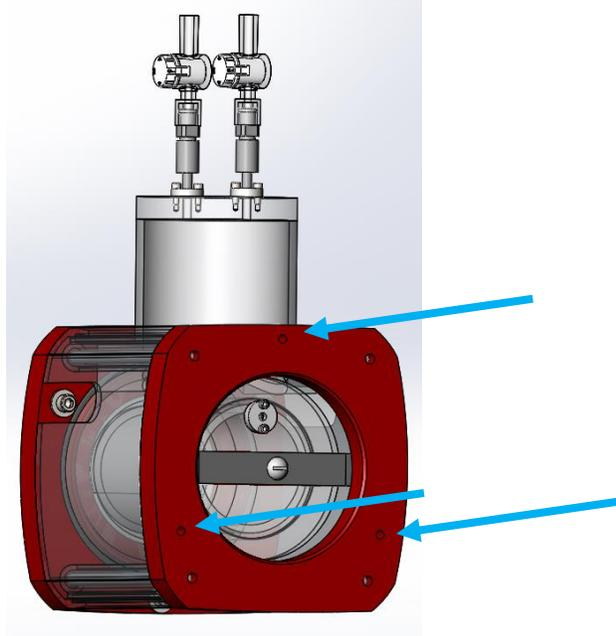

Figure 4 – VIA mounting fastener locations
3. If using a Viscoelastic Impedance Adaptor (VIA7991), fasten it to the SuperPump using the fastener holes shown in Figure 4 below.